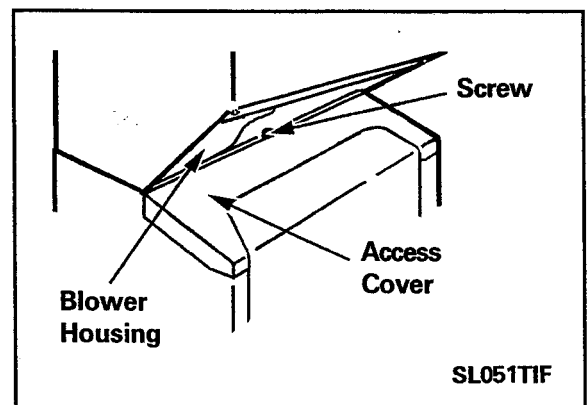

Figure 2-4
3. Locate and remove the 5/16" hex head screw located in the front of the dryer base frame (*Figure 2-4*). This screw secures the access cover to the base frame.